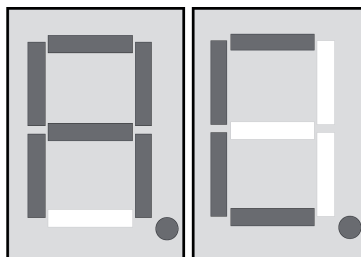

Figure 11: Indication AC – „All Clear“
- Press **Enter** button (9) for approx. 15 seconds.
**AC** (Figure 11) appears on the display. All saved radio transmitters of all created radio channels will be deleted.